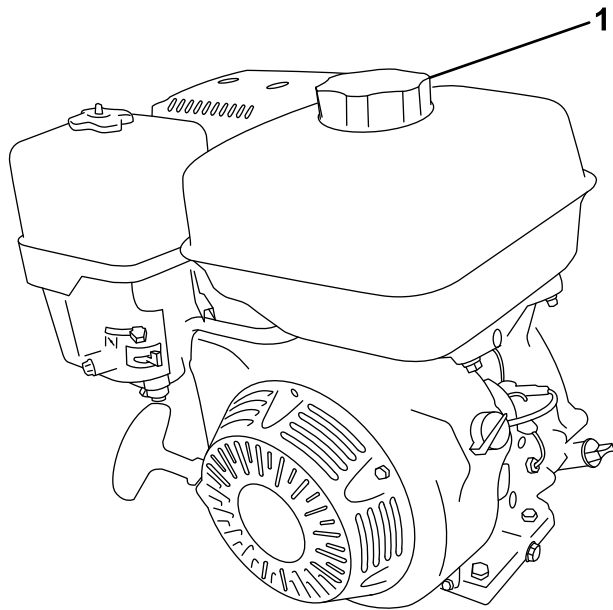

Figure 26
2. Clean around the fuel cap and remove it (Figure 26).
5. Install the fuel cap securely (Figure 26).